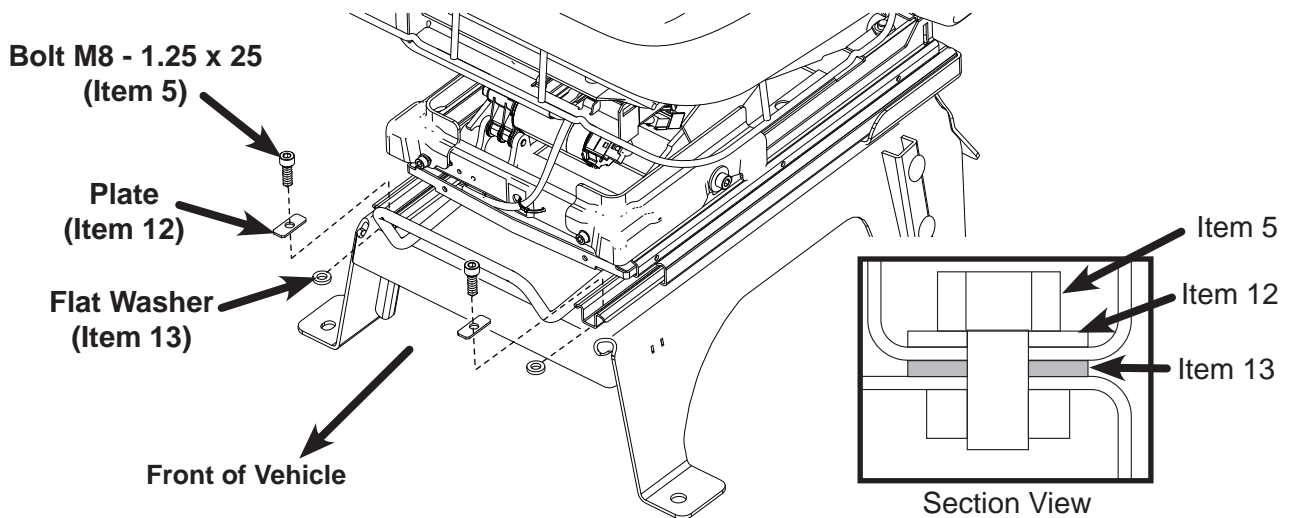

Fig. 23
37. Locate (2) Reinforcement Plate Lower, (Item 12) inside and above lower rail at front of track. Locate (2) Flat Washer .343 x .625 x .125 ZN, (Item 13) underneath lower rail between fore/aft adjuster and fixed seat riser See Fig. 23
38. Tighten seat asm to riser at front using (2) BOLT, Socket Head M8 - 1.25 x 25 (Item 5) using 6mm Hex Bit and Ratchet. Torque to 25 +/- 3 Nm using Torque Wrench.